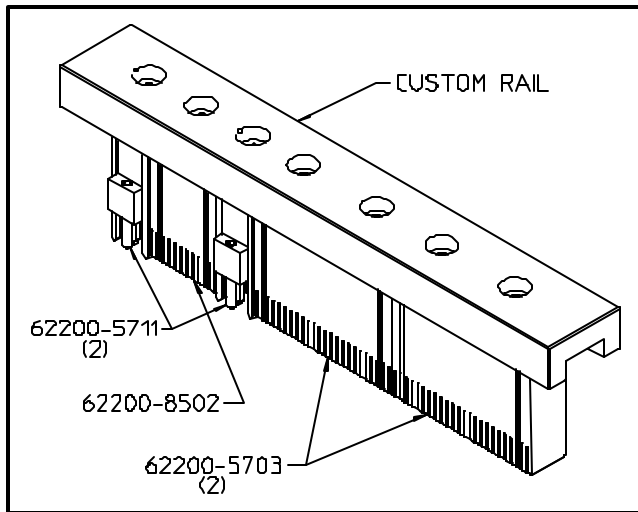

Fig. 2-3
The various insertion modules can be assembled into a custom mounting rail to insert a line of connectors. Fig. 2-3 shows a typical multiple tool setup. A custom rail must be designed and made.
- Determine the connectors to be installed and the order of each connector in the line. Using the example for the tool in Fig. 2-3, this would be, from left to right,